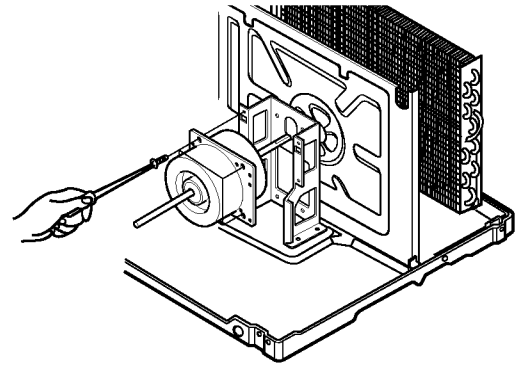

Figure 15
7. Remove the 4 screws which fasten the motor from the mount motor. (See Figure 15)
9. Re-install the components by referring to the removal procedure, above.(See Figure 15)